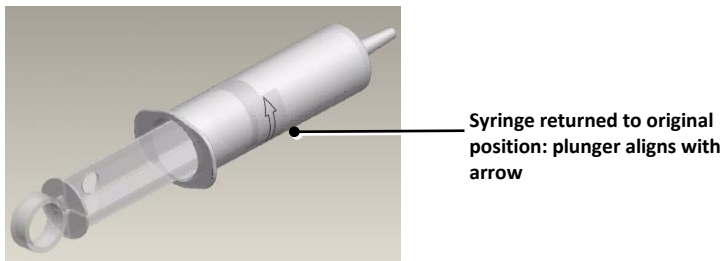

Figure 5: Syringe returned to original position
7. When the procedure is finished, deflate the balloon fully, as indicated when the plunger aligns with the arrow on the syringe (See Fig. 5) and carefully remove the catheter from the patient.
9. Deflate the balloon fully, as indicated when the plunger aligns with the arrow on the syringe (See Fig. 5) and carefully remove the catheter from the patient.